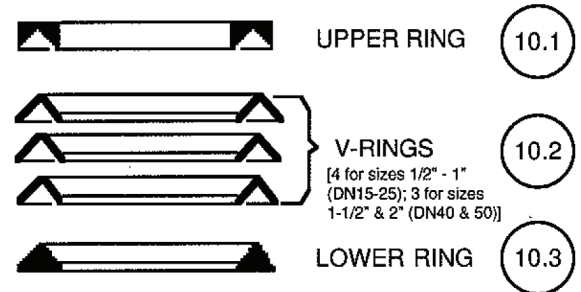

Figure 4 : Packing
(2). Loosen vise and reposition bonnet (2) to prevent stem (4) assembly from dropping out the bottom of the bonnet (2). Retighten vise.
22. See Figure 4 for proper packing (10) orientation; **DO NOT INVERT PACKING RINGS (10)**. Insert lower ring (10.3) over upper end of stem (4) and push into bonnet's (2) packing box. Use a hollow tool or packing follower (11) to press the lower ring (10.3) fully into place. Repeat for all four/three of the packing v-rings (10.2) and the upper ring (10.1).